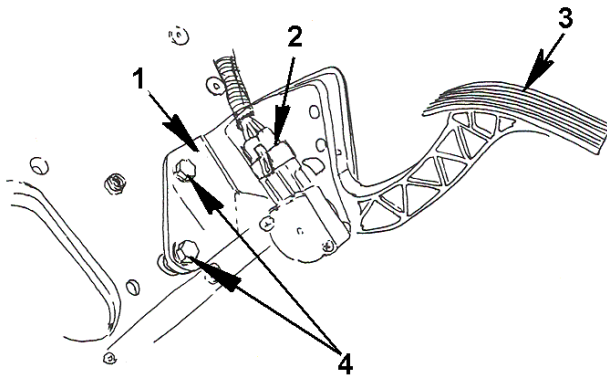

Figure 79 Accelerator Pedal Assembly
1. Locate the accelerator harness connection and disconnect (Figure 79, Item 2).
2. Locate the two mounting bolts attaching the accelerator pedal assembly (Figure 79, Item 3) to the cowl reinforcing mounting plate.